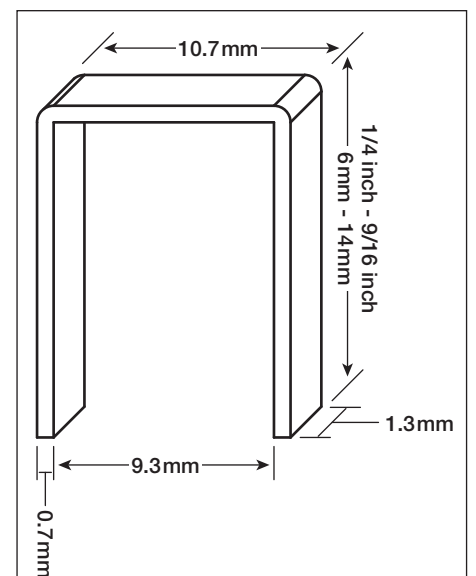

Figure 10
- Arrow® T50® staples or any equivalent fastener with the approximate dimensions illustrated in Figure 10